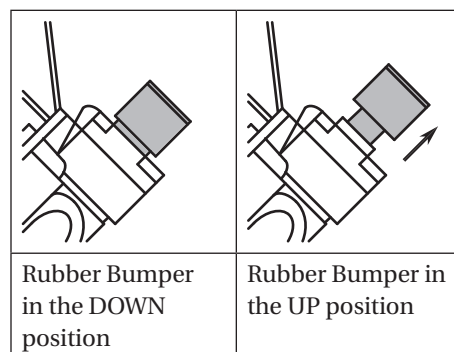

Figure 15 - Attach air hose with Rubber Bumper in UP position
5. Pull rubber bumper on nailer into UP position (see Figure 15).
**NOTE:** Make sure the rubber bumper on the flooring nailer is in the up position before adding the air hose, if not, the nailer may cycle (see Figure 15).